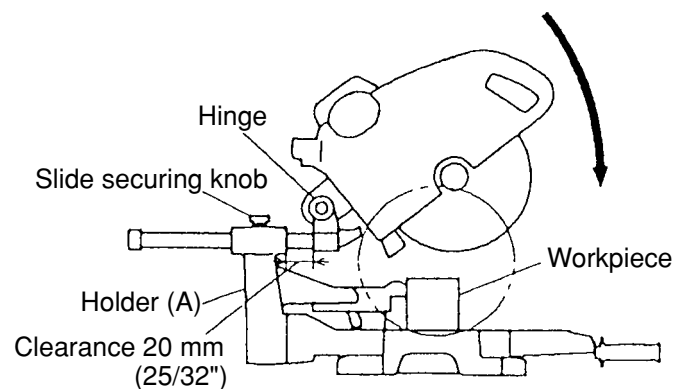

Fig. 4
In this case, fix the head with the slide securing knob to the position where the hinge is 20 mm (25/32") away from holder (A) as shown in Fig. 4 to obtain the greatest cutting force and then perform press cutting.